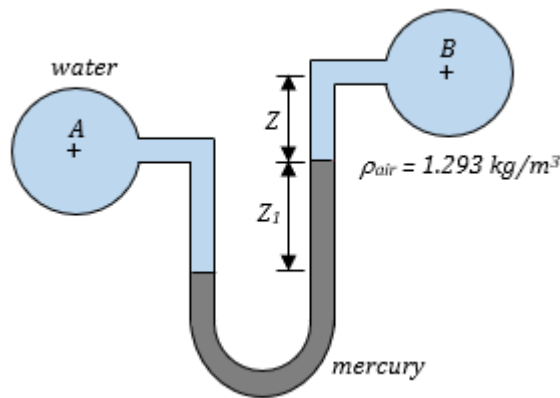

Figure 10
16. Based on figure 10 determine the gauge pressure at point A, if the gauge pressure at point B is 25 kN/m^2 , with distances of $z = 0.3 \text{ m}$ and $z_1 = 0.6 \text{ m}$.